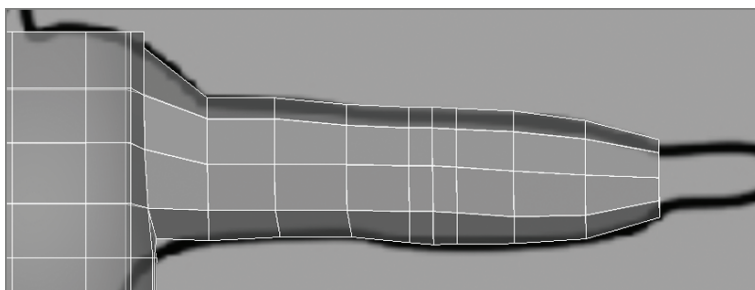

FIGURE 7.22 Scale down the edges along the arm from the wrist to match the image plane.
11. Move your way up the arm, selecting and scaling edges to match the image plane, as shown in Figure 7.22.